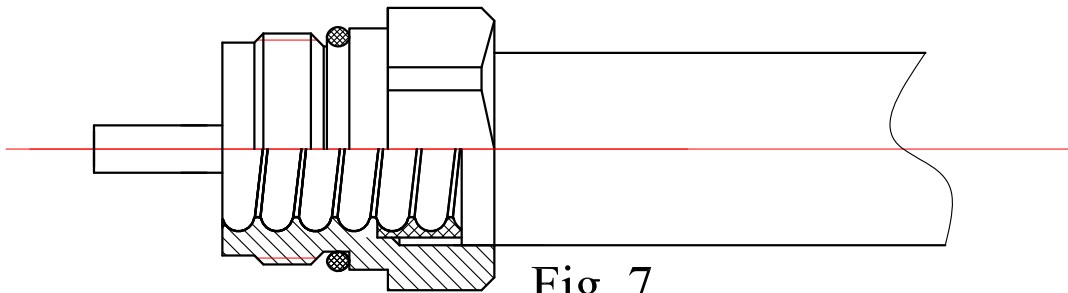

Fig. 7
4. After installing the Rear shell on the cable, the insulation end is flush with the threaded end of the rear body, as shown in Fig. 7